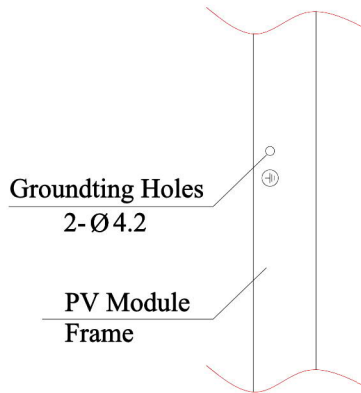

Figure 12: Grounding hole
- ◆ All module frames and mounting racks must be properly grounded. As shown in Figure 12. The grounding wire must be properly fastened to the module frame to assure good electrical contact. Use the recommended type, or an equivalent, connector for this wire.